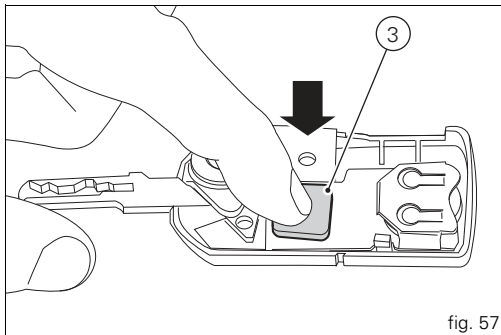

fig. 57
**E** Apply slight pressure on the antenna (3, fig. 57) of the printed circuit board until you hear a click.